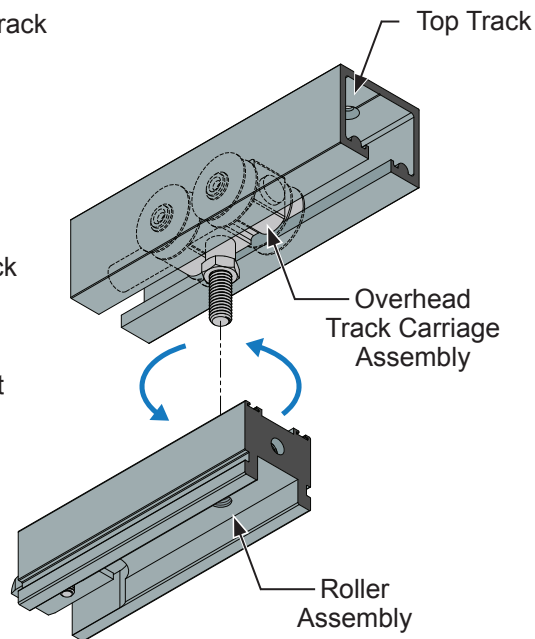

FIG. 2
2. Remove the roller assemblies by turning the roller assembly counter-clockwise. (**Fig. 2**)